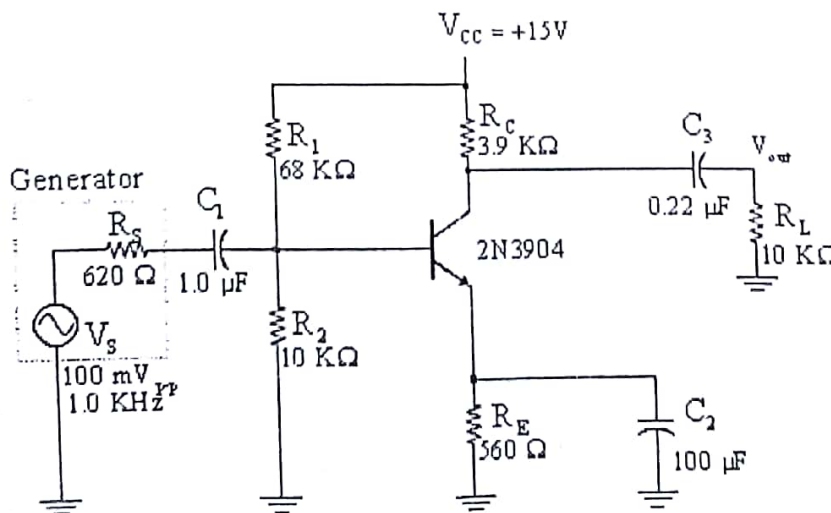

Fig.3: CE Amplifier
2. Compute the DC and AC parameters for the CE amplifier shown in Figure 3. Tabulate your calculations in Table 2 (the first five are DC parameters; the last three are AC).
3. Construct the amplifier shown in Figure 3. Then measure and record the parameters listed in Table 2 (in the open boxes) and confirm your calculations. Recheck your work if the calculated and measured values differ significantly.